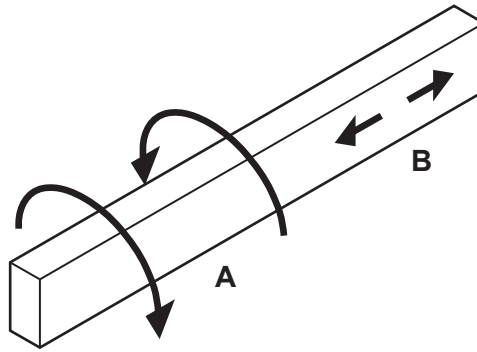

Fig. 4.1
- 4 Fig. 4.1 shows a beam that will be used in a structure.
Name the forces acting on the beam indicated by the arrows in Fig. 4.1.